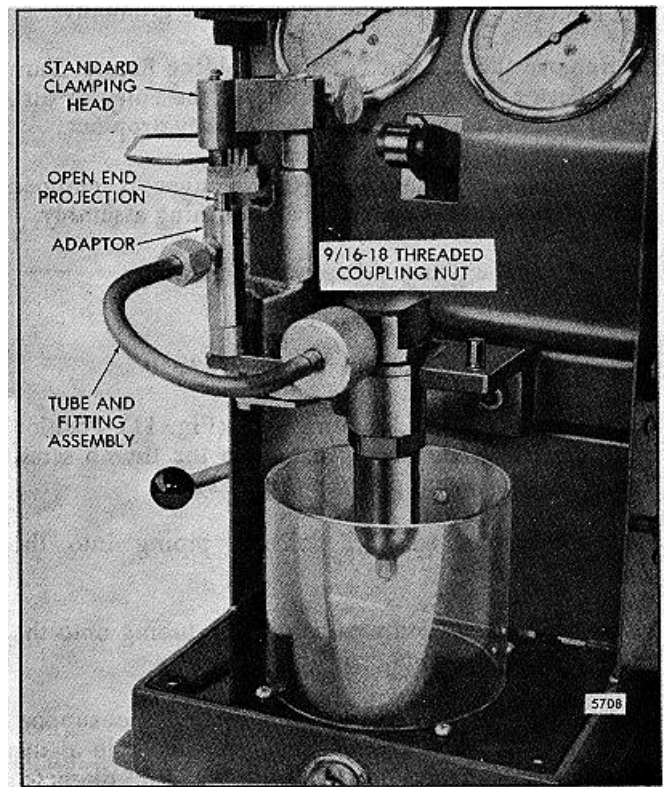

FIG. 15 Adaptor and Tube Assembly on Injector Tester J 23010
4. Mount the adaptor and assembled injector parts in the support bracket (adaptor plate, not needed). Refer to Fig. 15.
2. Swing the clamping head over the adaptor and clamp it with the oil supply outlet aligned over the open projecting end of the adaptor (Fig. 15).